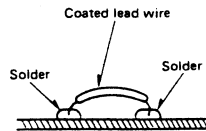

Fig. 18
1. If the chip jumper is removed, connect a coated lead wire to the part. (See Fig. 18).